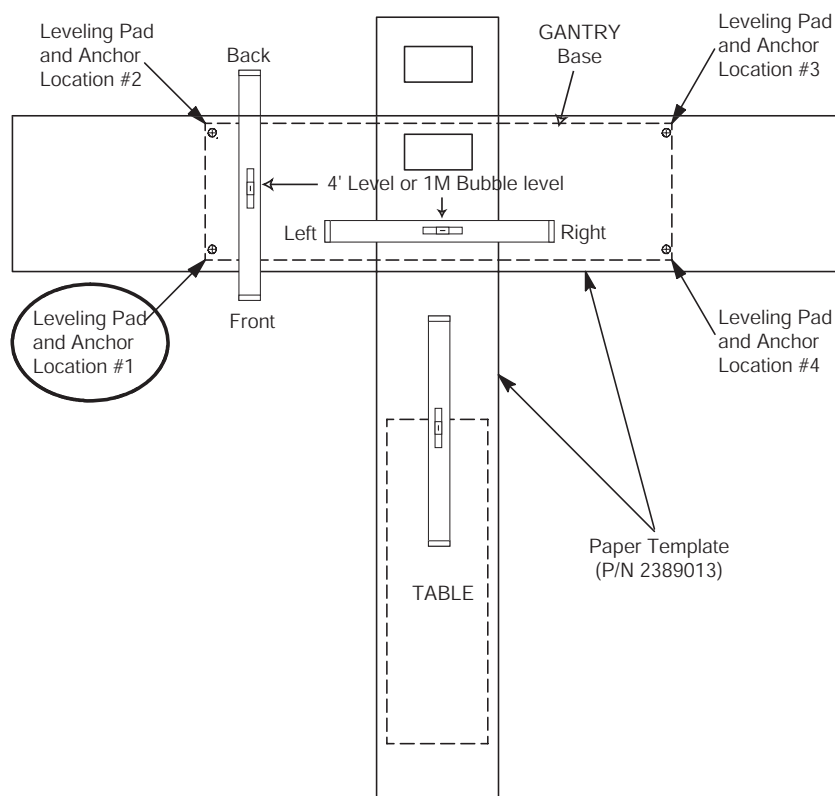

Figure 2-1 Hole Locations
- 4.) Check the level of the floor (See Figure 2-1) across the templates.
This should be measured on the template over the table/gantry area, as shown in Figure 2-1, above..